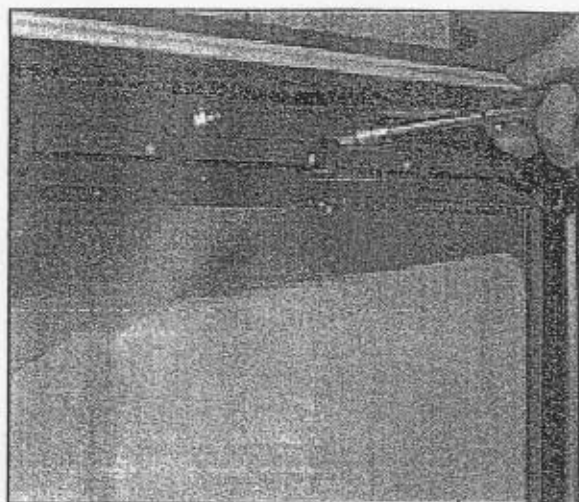
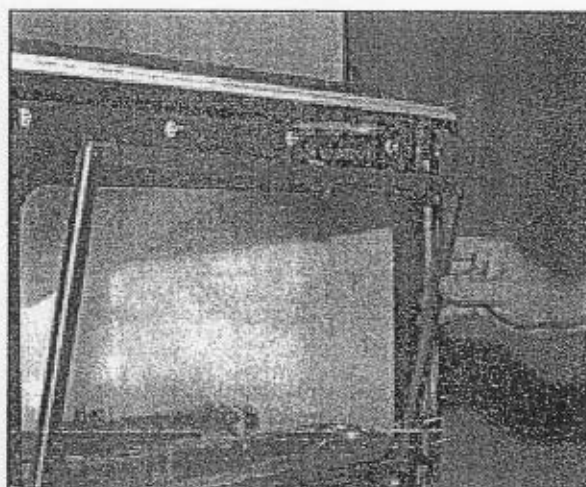

Figure 9b
Figure 9c
For your convenience, the glass mounting hardware is shipped loose. Retain them until the glass installation is required. To remove the sealed glass, loosen the two (2) nuts at the bottom of the glass frame with a 3/8" nut driver, but DO NOT REMOVE. Loosen the two (2) nuts on the top glass retainer. See Figure 9b. Hold the glass in place while removing the nuts and top retainer. Carefully lift the glass frame out and place it aside, making sure to avoid disturbing the gasket or breaking the glass. See Figure 9c.